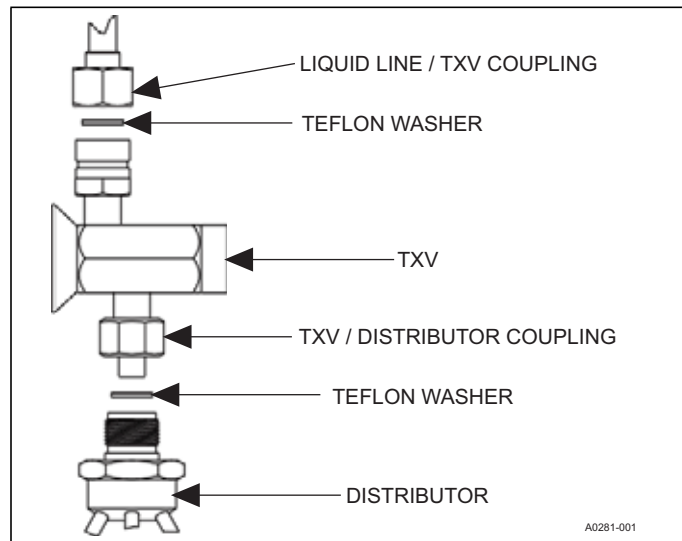

FIGURE 6: TXV Installation
4. Install the thermal expansion valve to the distributor assembly with supplied fittings. Ensure Teflon washer is seated in distributor. Hand tighten and turn an additional 1/4 turn to seal. Do not over-tighten fittings. See Figure 6.